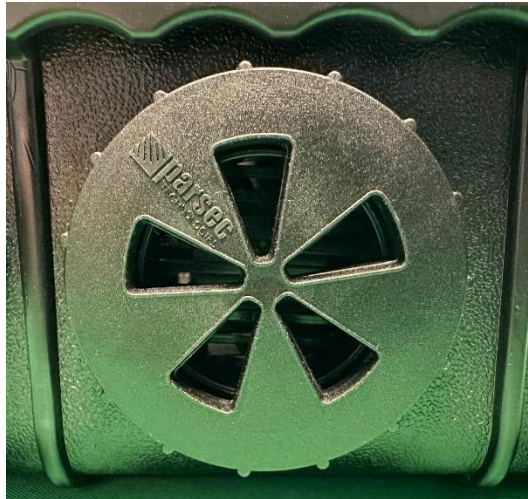

Figure 28: Open the fan and vent caps.
- B. Open a web browser on the computer and type 192.168.0.1 into the address bar. This will bring up the Ericsson NetCloud login, shown in Figure 28.